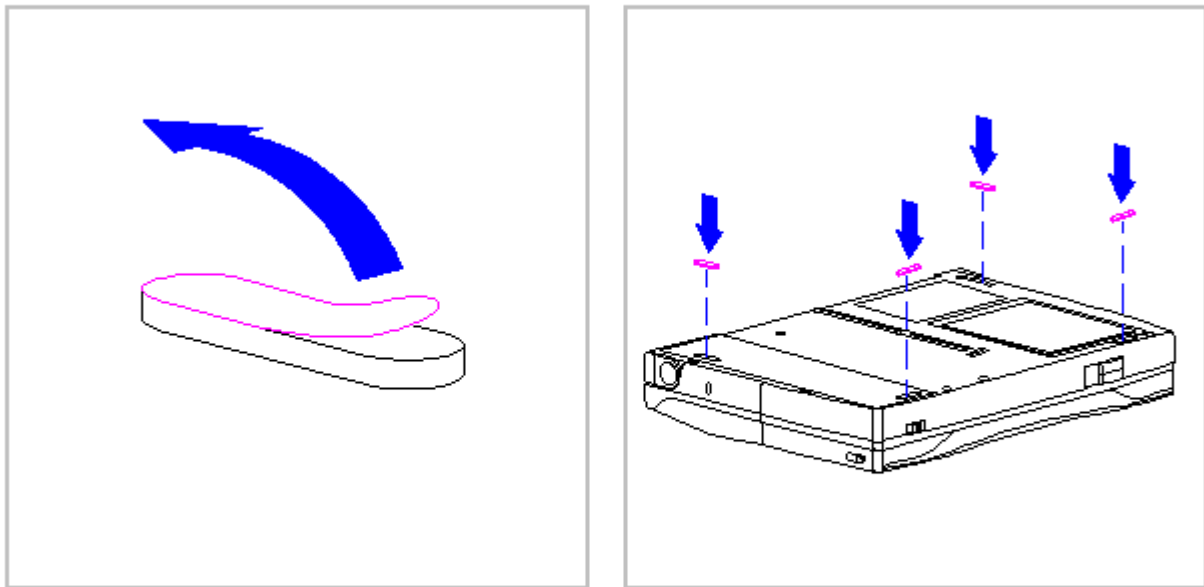

Figure 5-70. Attaching Anti-Skid Pads on the CPU Base
2. With the adhesive side down, place the anti-skid pad into the raised oval outline on the CPU base and the battery tray (Figure 5-70).